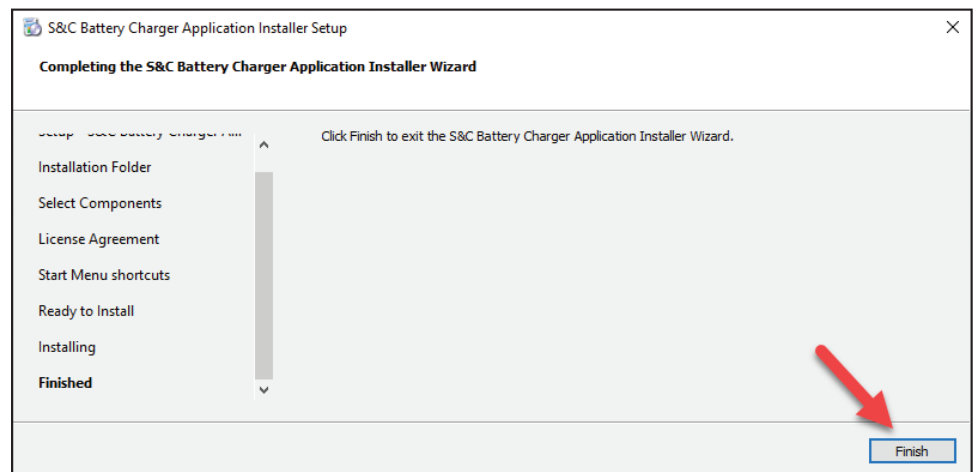

Figure 10. A completed S&C Battery Charger application installation.
- STEP 8.** Click on the **Finish** button to exit the installer. See Figure 10.